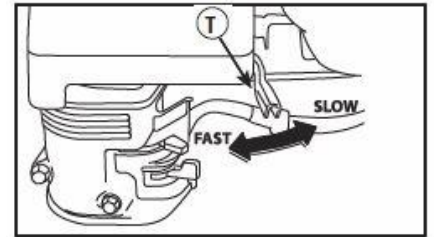

Fig. 13
7. Move throttle lever (T) to "Fast" position, shown as a rabbit. (See Fig. 13)
2. Move throttle lever (T) to SLOW position, then STOP position. (See Fig. 13)